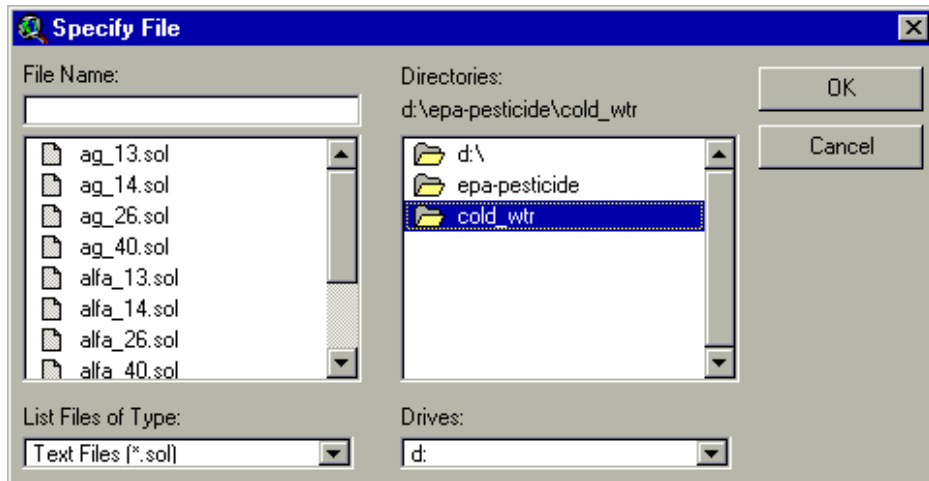

Figure 14.11
- c. A browser will be displayed if the user clicks **Yes** (Figure 14.11).